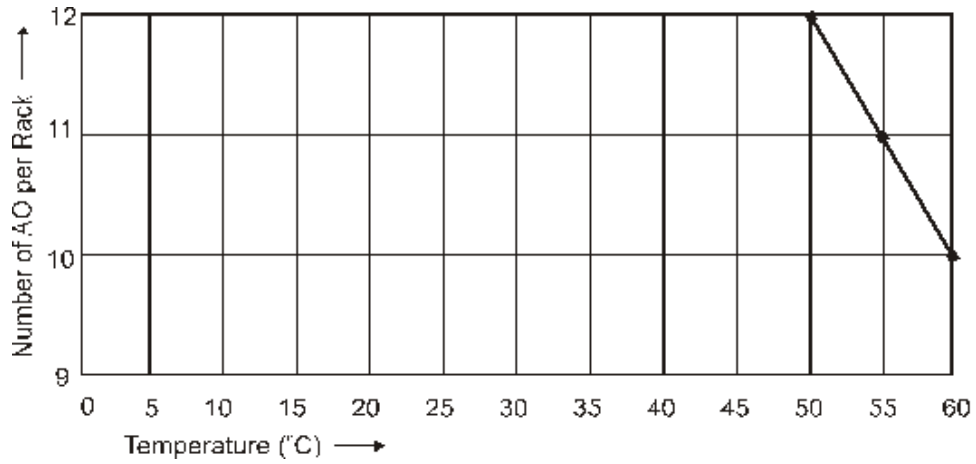

Figure 28 – Power Supply de-Rating
3. Limit the number of Analog Output modules to a maximum of 10 per rack. (see Figure 28)